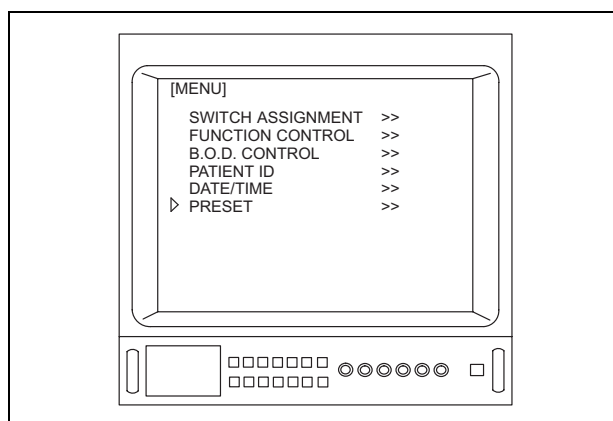

Figure 5.70
2. Depress the menu switches “” or “”, or the “” key on the keyboard to move the arrow “” to “PRESET” (see Figure 5.70).
- When using a type A OTV-S7V, “B.O.D. CONTROL” (see Figure 5.70) is not displayed.
- When the OTV-S7H-1D-F08E/L08E/D-L08E is connected to the OTV-S7V, “SWITCH ASSIGNMENT” (see Figure 5.70) is not displayed.
2. Depress the menu switches “◀” or “▶”, or the “↑/↓/←/→” key on the keyboard to move the arrow “▷” to “PRESET” (see Figure 5.70).